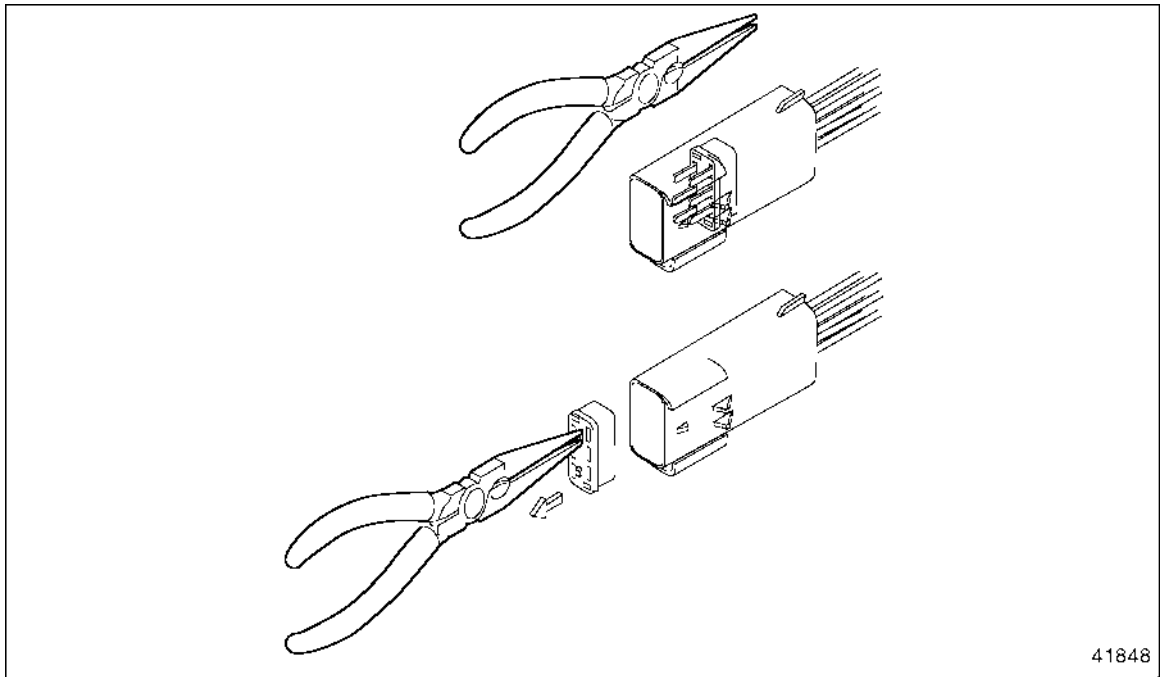

Figure 3-41 **Removing the Terminal**
1. Using pliers pull out the red Terminal Position Assurance (TPA) (see Figure 3-41).
3. Pull the cable back through the connector (see Figure 3-41).